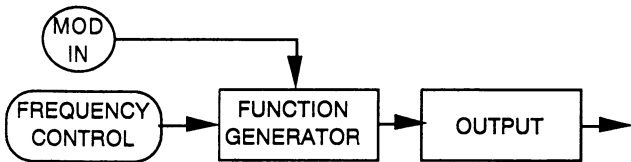

Figure 5-3. FM/VCG
Figure 5-3 illustrates the FM/VCG mode's signal flow. Like the non-synthesized mode, the frequency control sets the center (FM) or start (VCG) frequency, but an external signal via MOD IN varies the generator's frequency.